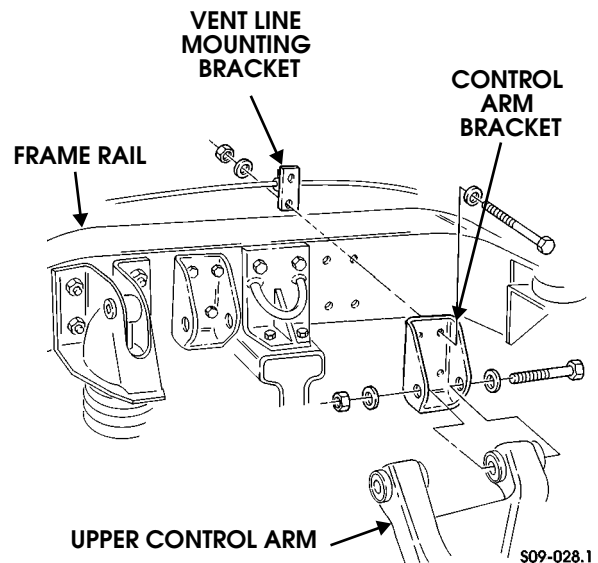

Figure 9-147: Rear Upper Control Arm Bracket Replacement
3. Remove two locknuts, washers, bolts, washers, and upper control arm from two control arm brackets (Figure 9-147).
1. Install control arm bracket, and vent line mounting bracket on frame rail with four washers, bolts, washers, and locknuts. Tighten locknuts to 172 lb-ft (233 N•m) (Figure 9-147).